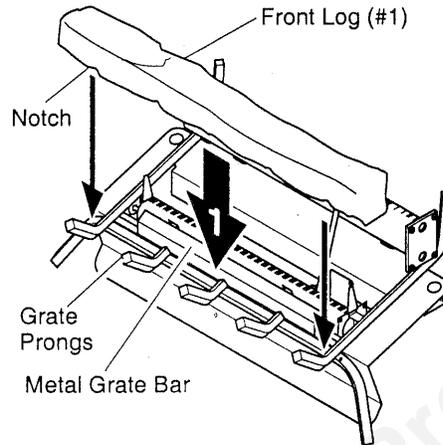

Figure 35 - Installing Front Log (#1)
1. Place front log (#1) on top of the grate. Make sure the notches in the bottom of the log fit over the grate prongs (see Figure 35). Push back of log flush with metal grate bar.